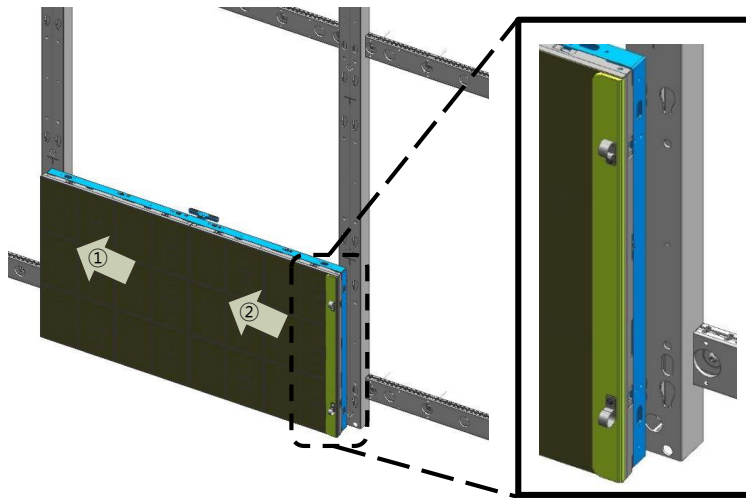
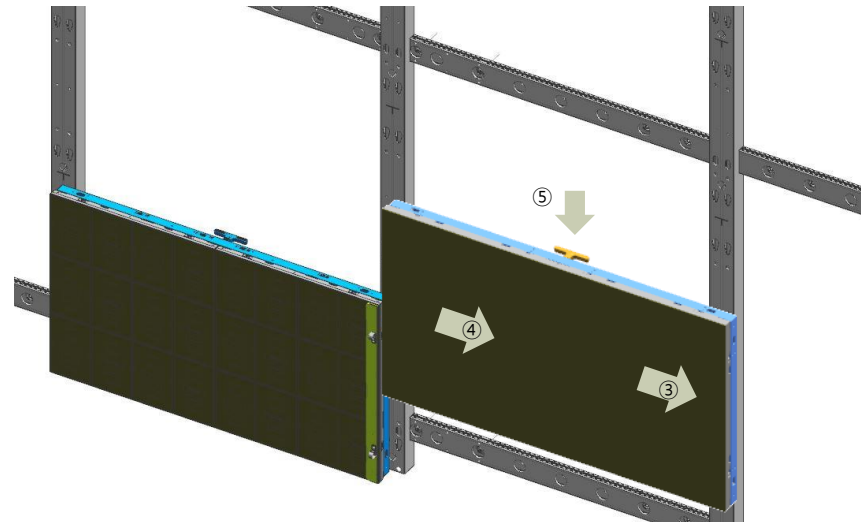

Fig.1 Edge Protection Jig 부착
Fig.2 두번 째 Cabinet 설치
- Push and slide the modules (①,②) with the opposite direction of cabinet to be installed.
- Attach the Edge Protection Jig V to edge of installed cabinet. (Fig.1)
- Push and slide the modules of the cabinet to be installed (③,④) with the direction of empty frame. (opposite direction of ①,②)
- Carefully slide in new cabinet in direction of ⑤. (Fig.2)